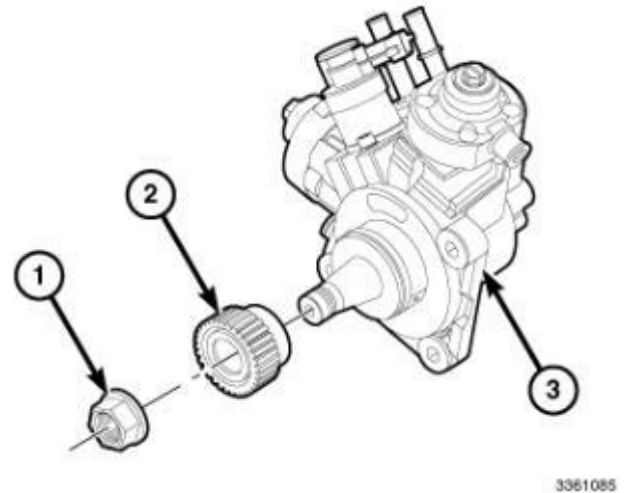

Figure 192 – Swapping the Drive Gear on the HPFP
35. The use of Puller 1023 or a commercially available gear puller is required to remove the fuel injection pump gear (2) (Figure 192).
36. If removed, install the gear (2) and (1) nut onto the fuel injection pump (3) and tighten the nut finger tight (Figure 192).